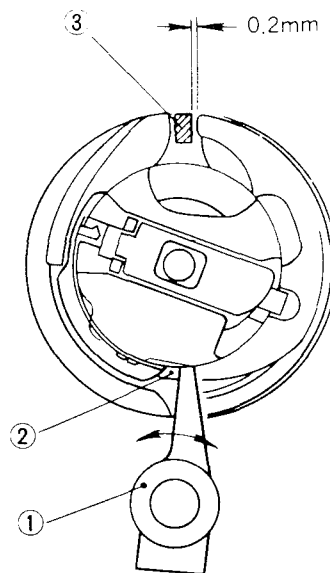

Fig. 22
1. Turn the machine pulley until the opener (①, Fig. 22) presses the projection of hook (②, Fig. 22) extremely on its travel.
2. Press the opener to the projection of hook and make the right side clearance between the notch on the bobbin case holder and the tab of the hook retainer (③, Fig. 22) 0.2mm as shown Fig. 22.